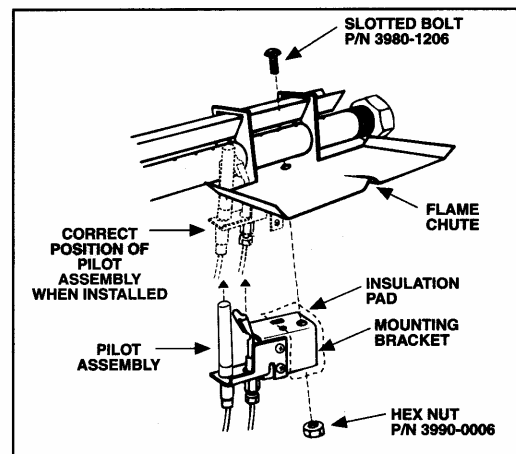

Figure 5
- Attach the pilot assembly mounting bracket (Item 8) to the pilot assembly (Item 4) with #10 screw (Item 7) (Figure 5).
- Place the burner insulation pad (Item 9) between the bracket and the flame chute. Insert the slotted bolt (Item 12) through the hole in the first chute nearest the safety valve and attach the insulation pad and pilot assembly to the burner as illustrated in (Figure 5). Attach the hex nut and tighten.